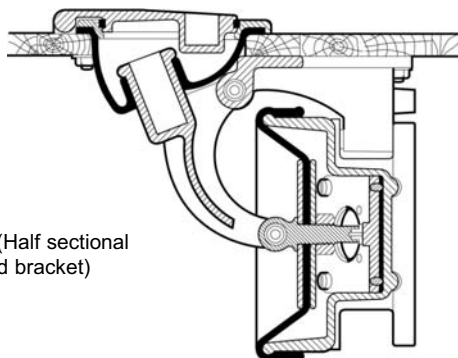

Fig. 7 Deck fitting for Gusher Pumps (Half sectional elevation of deck fitting, pump and bracket)
- Fig. 7 Deck fitting for Gusher Pumps (Half sectional elevation of deck fitting, pump and bracket)